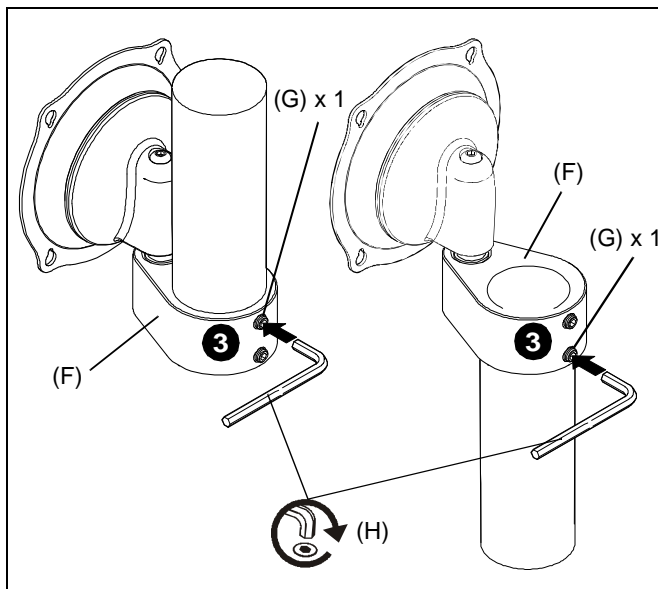

Figure 8
3. When head assembly (F) is properly positioned, secure head assembly (F) to adjustment column (A) by installing and tightening 5/16-18 x 3/8" set screw (G) using 5/32" hex key (H). (See Figure 8)